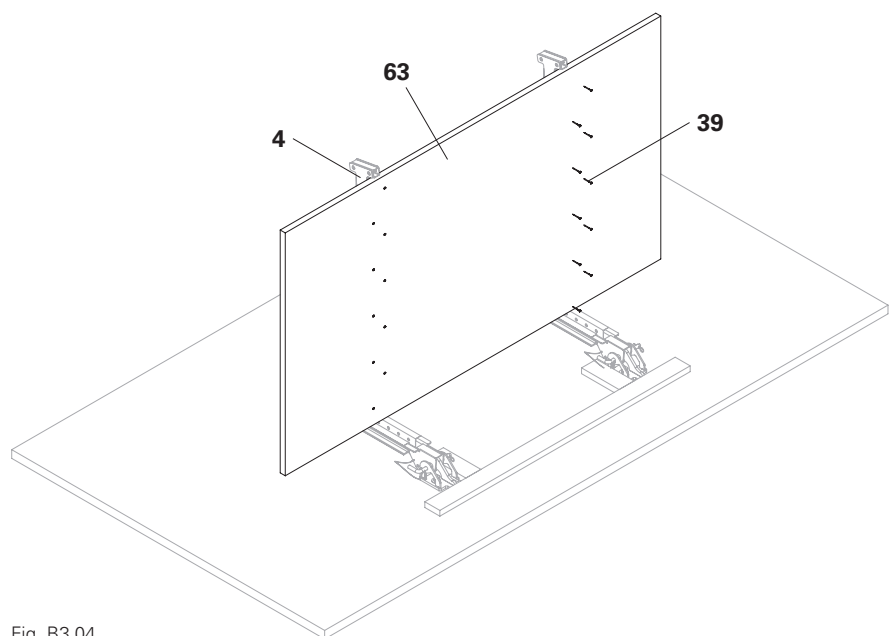

Fig. B3.04
4. Mount the multi-layer plywood sheet (**63**) with Spax screws TX 30 6 x 80 (**39**) to Platform Cantilever Beam VGK (**4**). (Fig. B3.04)